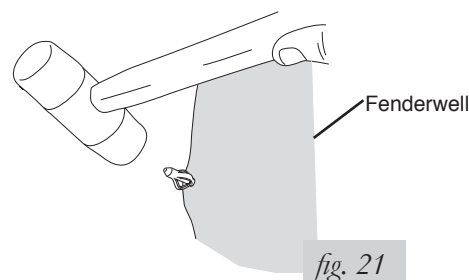

fig. 21
- From the opposite side, use a rubber mallet and carefully tap the rivet posts back into the rivets in order to secure them properly (fig. 21). Repeat this process for all remaining rivets.